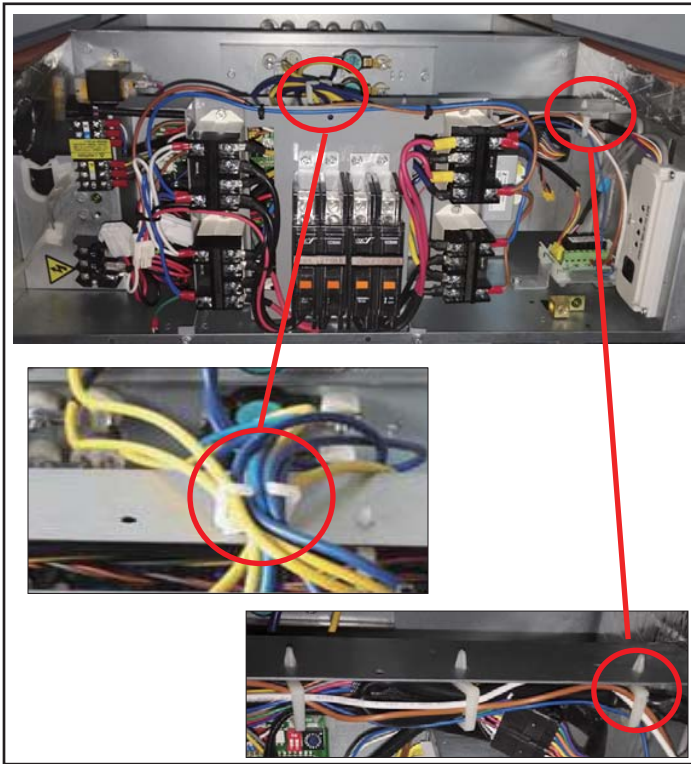

Figure 17. Secure Wires
18. Use the provided plastic wire clamp to secure the wires between the heater elements and the breaker panel to the top of the main control board and terminal strip assembly. Use an additional wire clamp already in the VVCA control box to secure the wires. See figure 17.